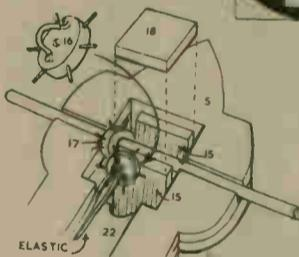

Fig. 3—The gears which engage to drive
The detail at Fig. 3 is also worth studying as showing the reverse end mechanism. The hollow box made of parts 14 and 15 should be completed without the lid piece (18). Now make up the two driving wheels (16 and 17). Fix No. 17 on to the axle in the position indicated, glue in place, and then drive in the fret pins so they project only about $\frac{3}{16}$ in. Their points will go into the axle itself, and so make a firmer drive. The pins are, of course, equidistant, put in centrally on the edge of the wheel at the points shown on the pattern.